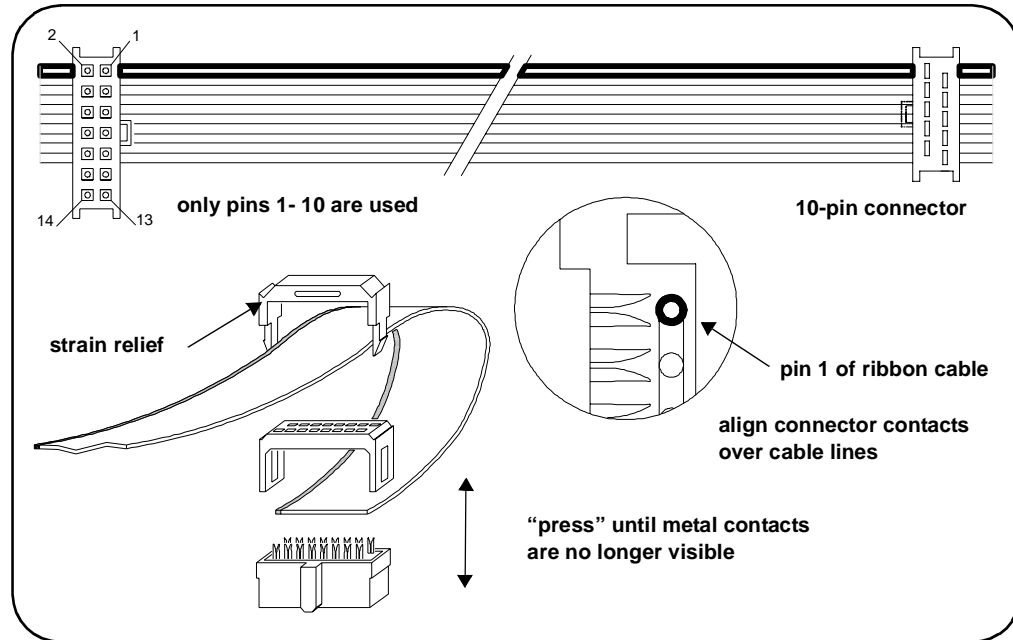

Figure A-5. Y1158A 14-pin to 10-pin Connector Orientation and Cable Routing.
2. Position the ribbon cable connectors as shown in Figure A-5. Route the cable **through** the connectors, noting the location of pin 1 on the cable. By convention, pin 1 is indicated in red (the dark line in the drawing).
6. Fasten the strain relief clamps over the cable and into the ribbon cable connectors as shown in Figure A-5. Remove any excess cable after the clamps are in place.